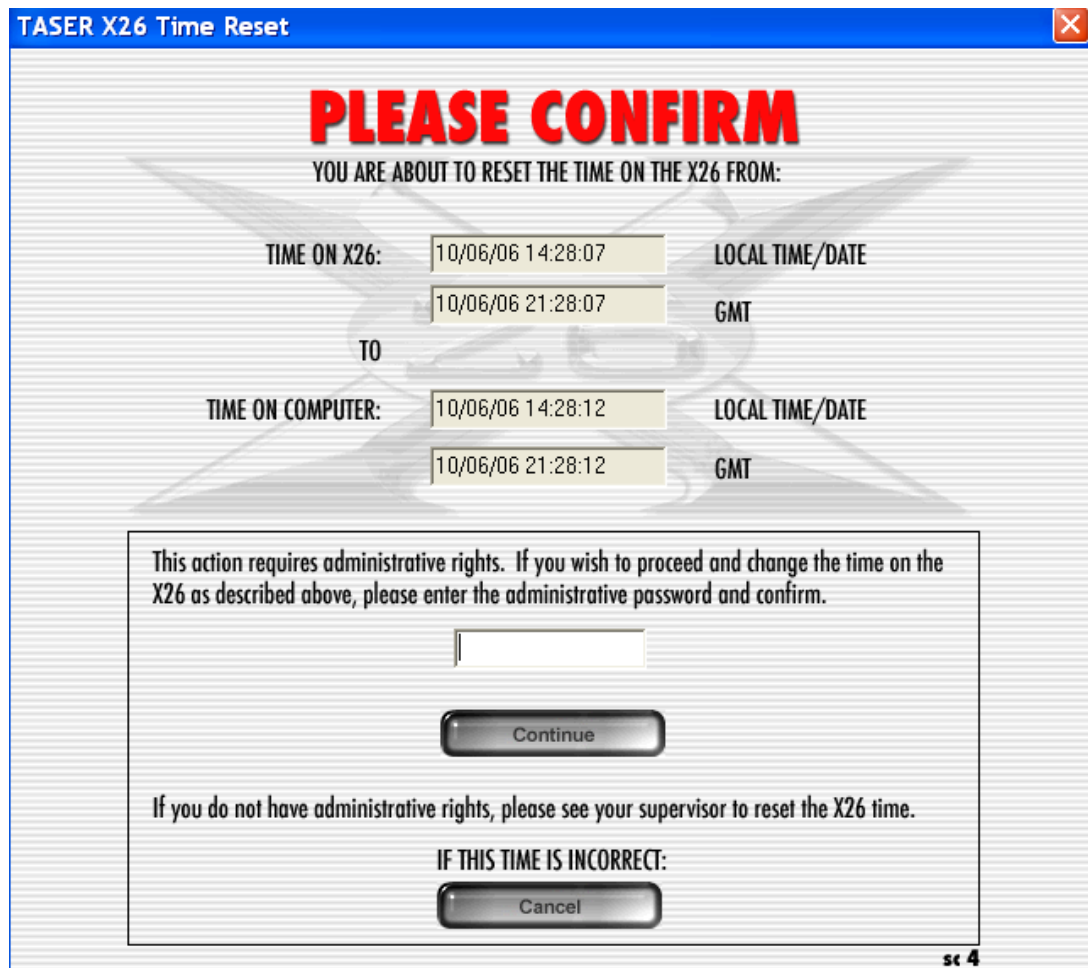

Figure 28
- a. A **PLEASE CONFIRM** dialog box (Figure 28) will appear to verify that you want to change the time in the X26 device. Changing the time requires the case-sensitive password located on the CD case. You also can obtain the password by contacting TASER International Technical Support at 1.800.978.2737.